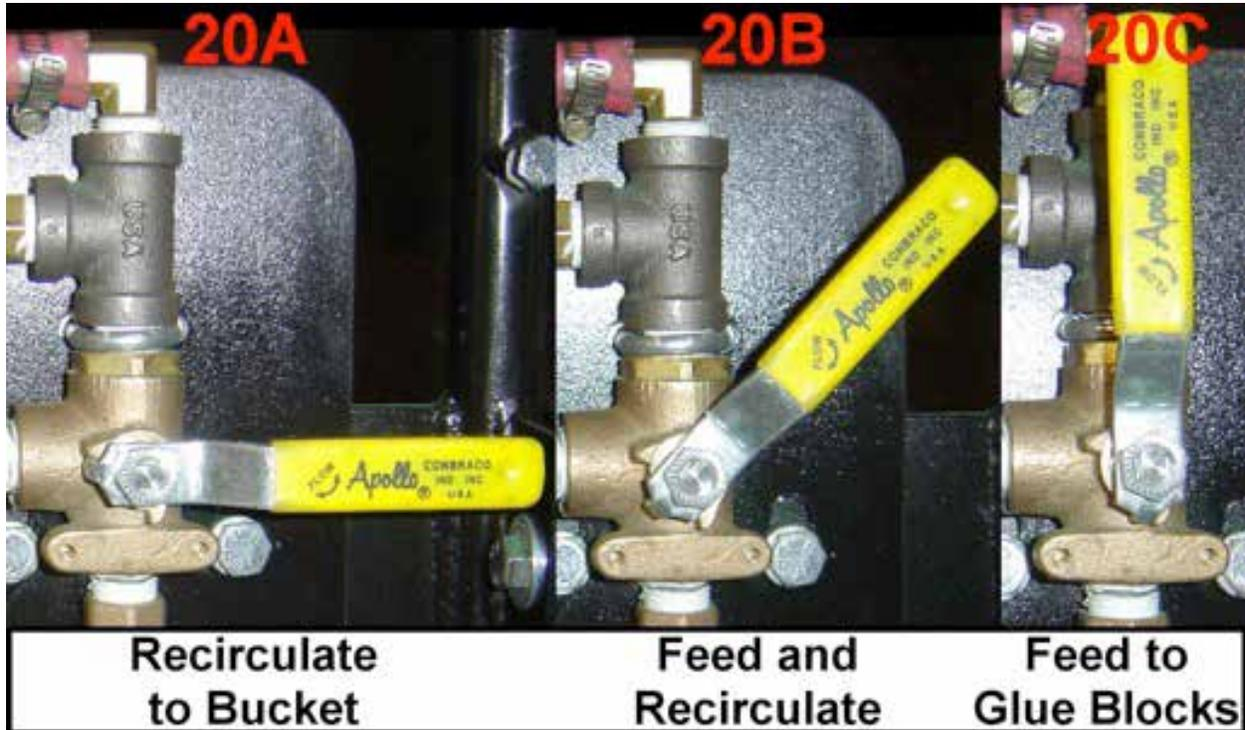

Figure 20 Glue System Operation
5. Turn the glue control valve to position 20A, Figure 20, to recirculate the glue to the bucket. Engage the compression blades and allow the glue to circulate through the system for approximately 3 minutes.